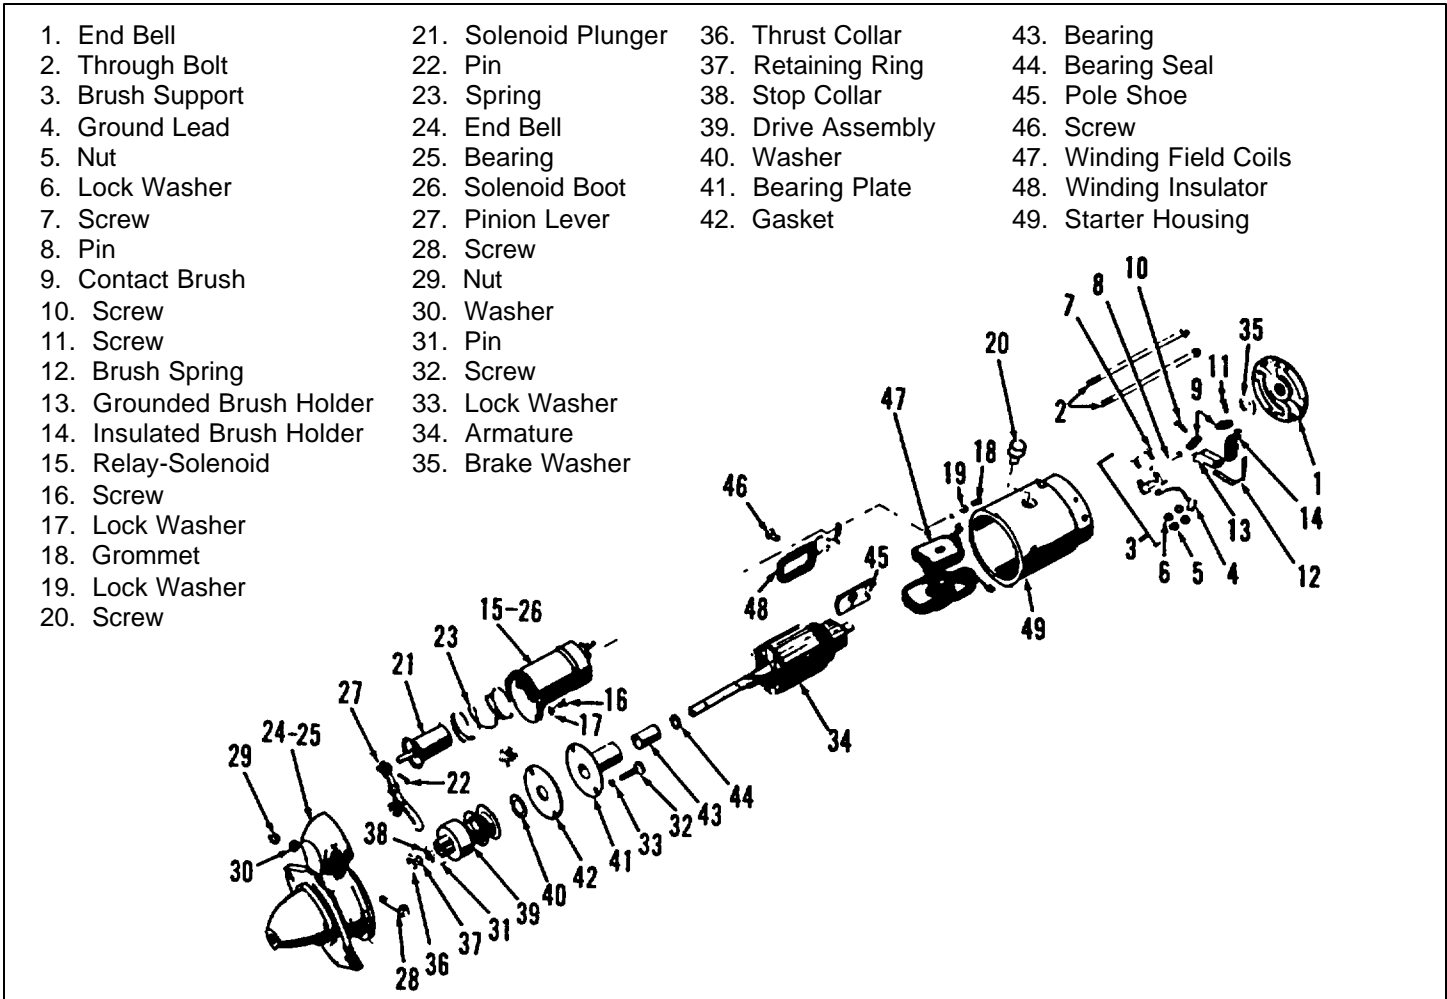

Figure 4-21. Engine Electrical Starting Motor. Exploded View
1. Disconnect field coils (47, figure 4-21) from solenoid (15) terminal.
2. Remove through bolts (2); then separate commutator end bell (1) from starter housing (49).
3. Remove solenoid (15) and shift lever (27); then, remove screw (32) and washer (33) to free center bearing plate (41). Take armature (34) with attached parts from drive end bell (24).
4. Remove drive thrust collar (36), retaining ring (37), and take drive assembly (39), stop collar (38) and remaining parts shown from armature shaft. Drive assemblies are serviced as a unit. Do not disassemble.